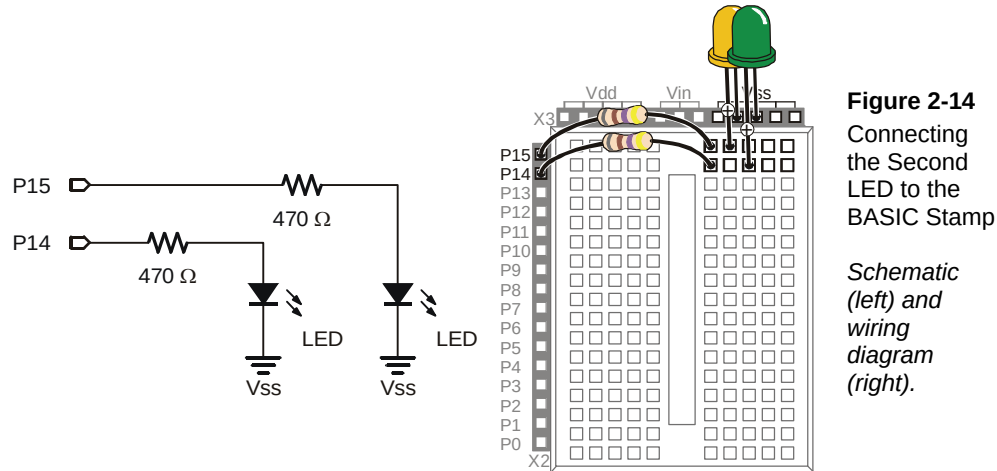

Figure 2-14
- ✓ Modify the second LED circuit you just tested by connecting the LED circuit's resistor lead (input) to P15 as shown in Figure 2-14.